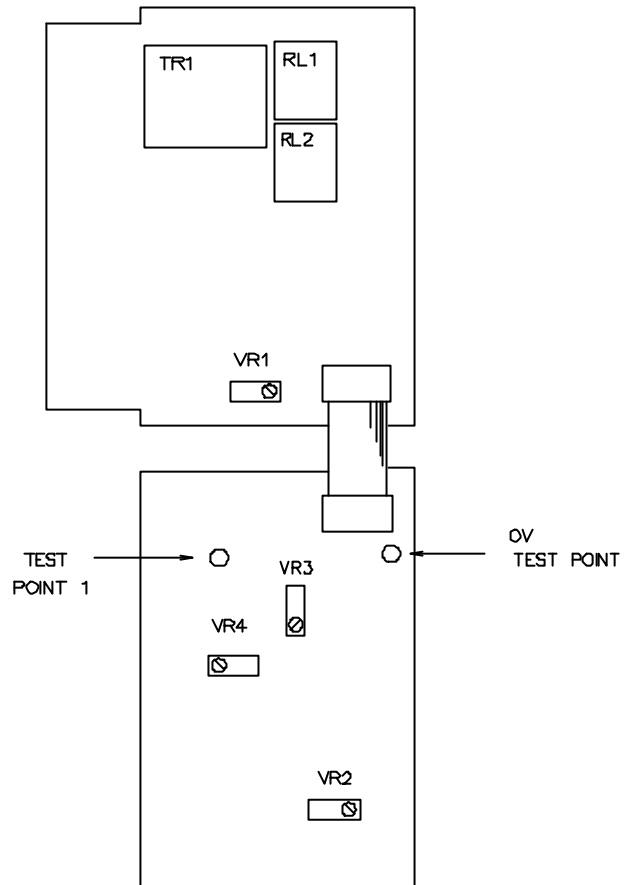

Figure 4
- Apply minimum input signal and adjust VR1 to give 0V at TP1 with respect to 0V test point (See Figure 4)
On both RTD (Pt100) and Thermocouple inputs the unit will sense if the sensor fails short-circuit or open-circuit and will trip the output relay and flash the "Power On" LED. If the relay trip facility is not required this can be disabled by linking LK8 on the small PCB shown in Figure 4